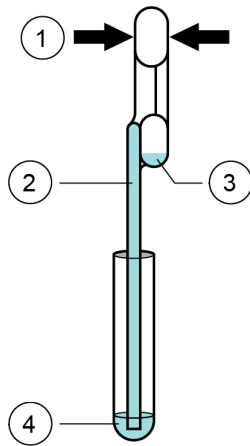

Figure 20. Cartridge Preparation Screen
9. The Cartridge Preparation screen appears (see Figure 20).